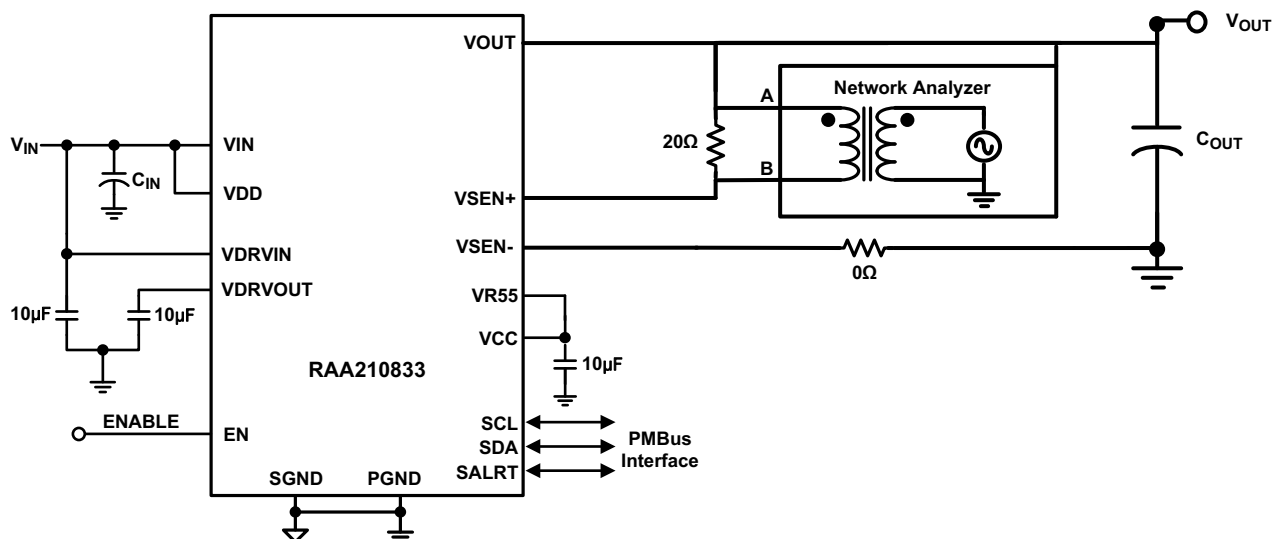

Figure 2. Network Analyzer Connection
- (1) Break the feedback loop by removing the R₉ resistor in the remote sense path, connected between VSEN+ and VOUT.
- (2) Solder a 20 Ω resistor in its place. The value of the resistor should be in the range of 10 Ω to 50 Ω .
- (3) Solder a twisted wire pair to the 20 Ω resistor. Ensure that the wires are short in length. A small twisted pair works well by minimizing noise pickup, which is important for a good measurement.
- (4) Enable the module.
- (5) Use a network analyzer to inject a small AC signal (~20mV) across the 20 Ω resistor as shown in Figure 2 on page 7.
- (6) Measure the amplitudes of the signals at points A and B as shown in Figure 2.
- (7) Sweep the frequency using the network analyzer to observe the bandwidth, phase, and gain margin.